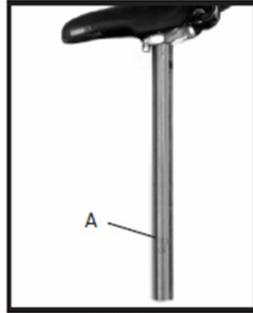

Figure 19- Minimum insertion mark on seatpost
5. Make sure the minimum insertion mark on the seatpost (Figure 19) is not visible above the bike frame. A minimum of 21/2" (64 mm) of seatpost must remain in the frame.
A seatpost that is positioned too high can damage the bike and can cause you to lose control and fall. Make sure the minimum insertion mark (Figure 19) is inside the frame.